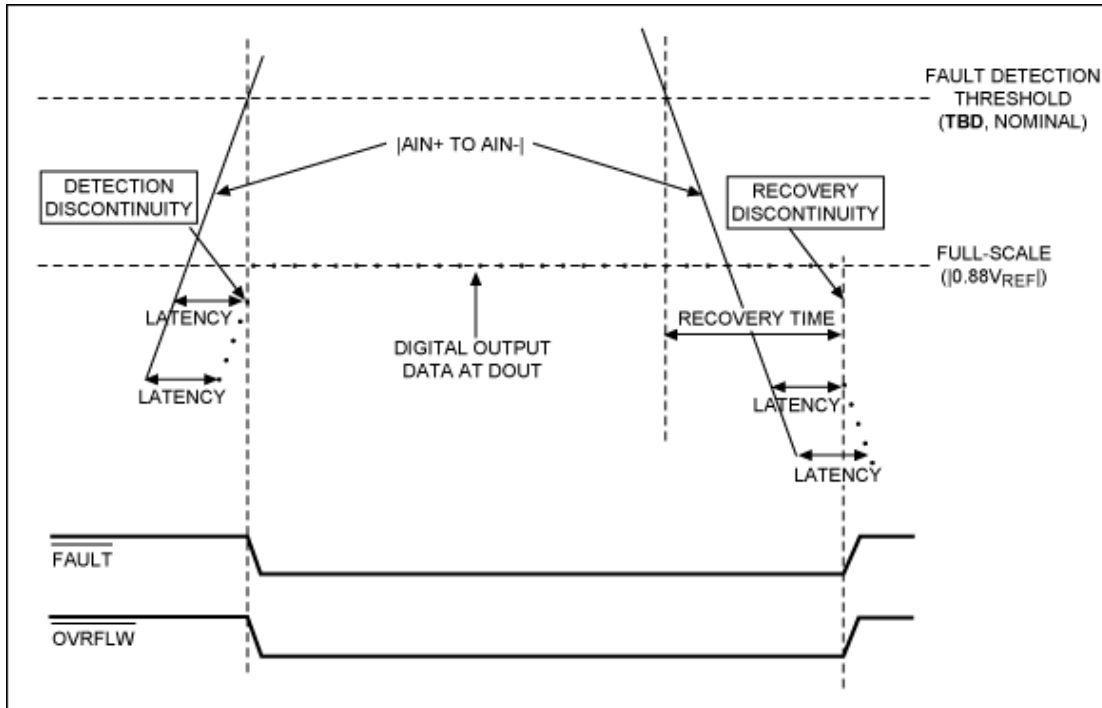
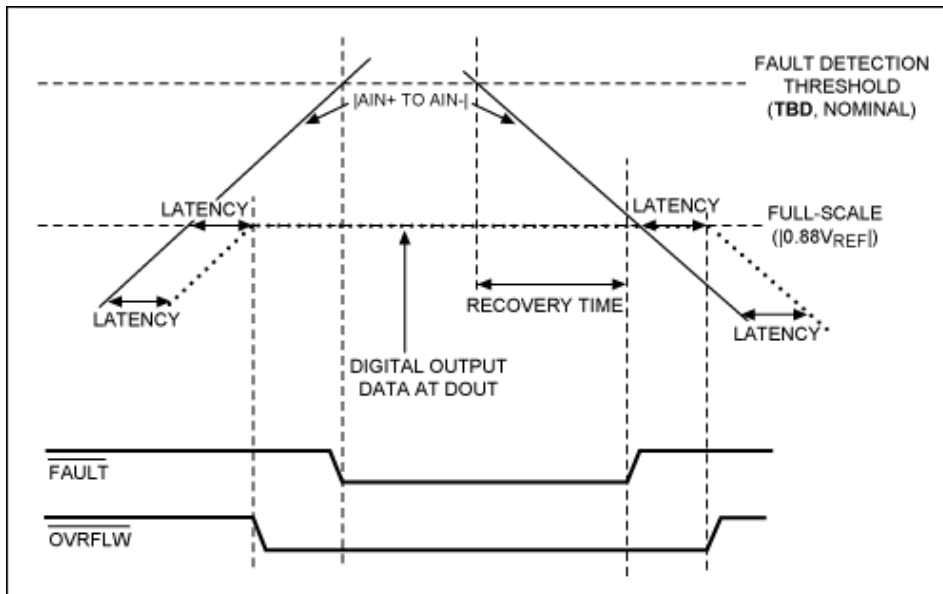

Figure 4. High-frequency analog input OV detection and recovery for a fast-moving input.
Figure 5. High-frequency analog input OV detection and recovery for a slow-moving input.
**Figure 4** illustrates the process for a fast-moving input; **Figure 5** illustrates the process for a slow-moving input. For the fast signals, the transition on the active-low OVERFLOW and FAULT signals is almost simultaneous. One should note that there is a latent period from when the signal crosses the threshold and before the active-low OVERFLOW and FAULT signals go low. There is a similar recovery time before the signals return high.